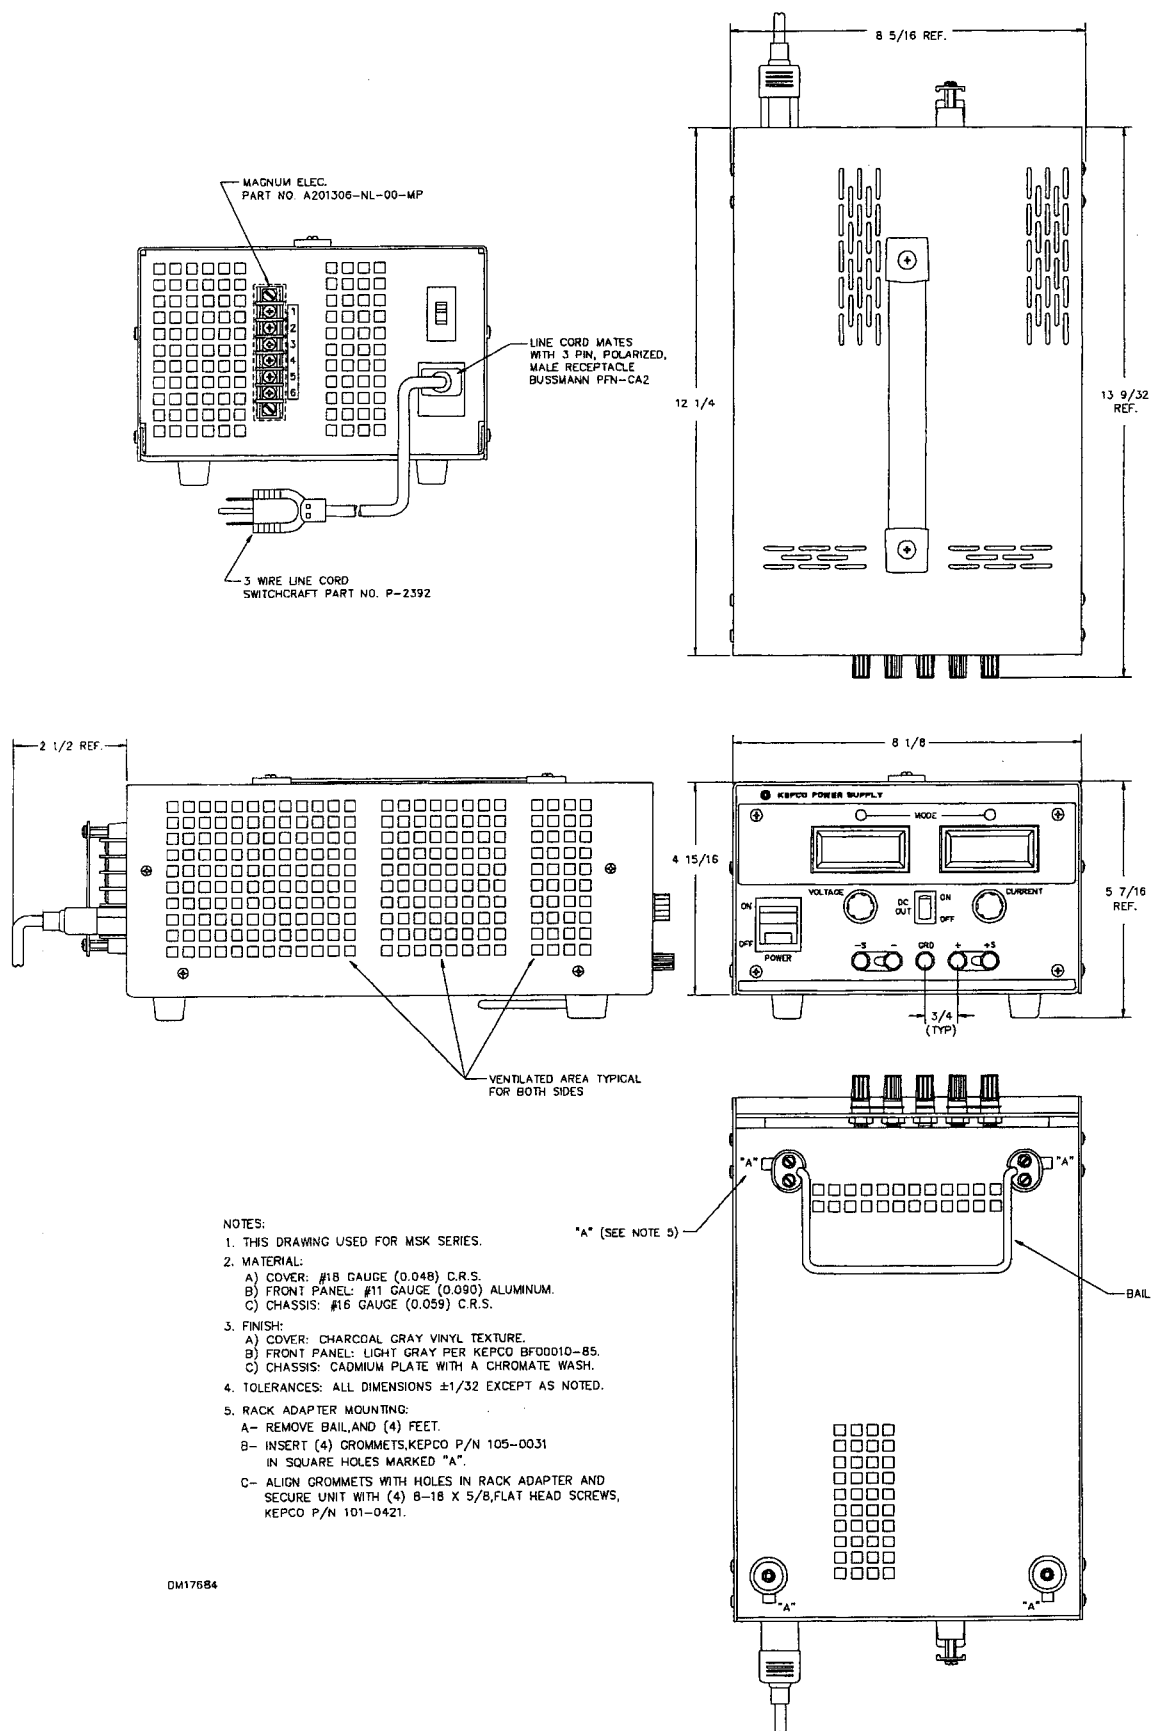

FIGURE 2-3. MECHANICAL OUTLINE
- 2-2 The unit may be operated on a bench or any suitable flat surface, see Figure 2-3 for Outline Drawing. The tilting ball on the front bottom of the case elevates the unit to an angle for convenient viewing of the operating controls. Output and sense binding posts are provided at the front of the unit. Either the + or the – terminal may be connected or referred to ground.